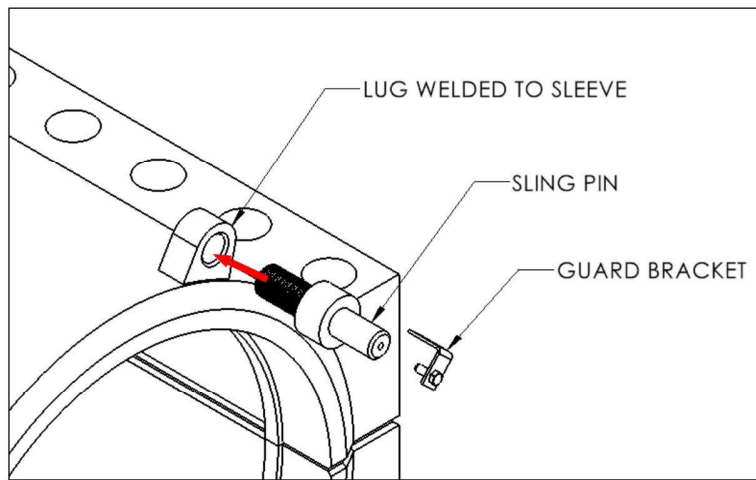

Figure 2
5. Thread the 4 sling pins into the lugs welded on the ends of the Split+Sleeve as shown in Figures 2 & 3. It is easier to install the “L” shaped guard brackets after the sling is placed over the pins.